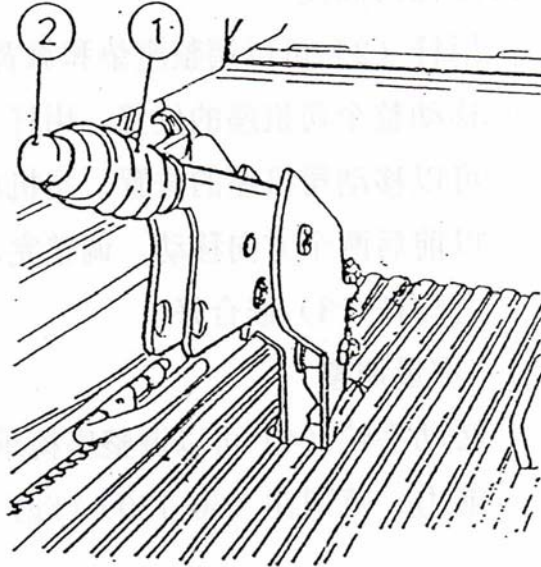

Fig. 15
7.3.8 Control device for hand brake (Fig. 15)
Pulling up the brake handle (Fig.15/1) to apply parking brake. To release the brake handle, pull it straightly up, press the knob (Fig.15/2) and push it down completely.